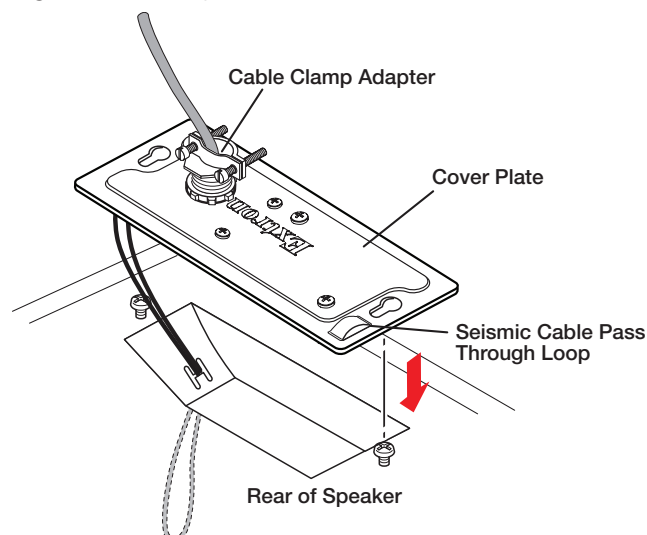

Figure 7. Routing the Cables Without a Conduit
- Insert the wires through the clamp and cover plate, as shown in figure 7.